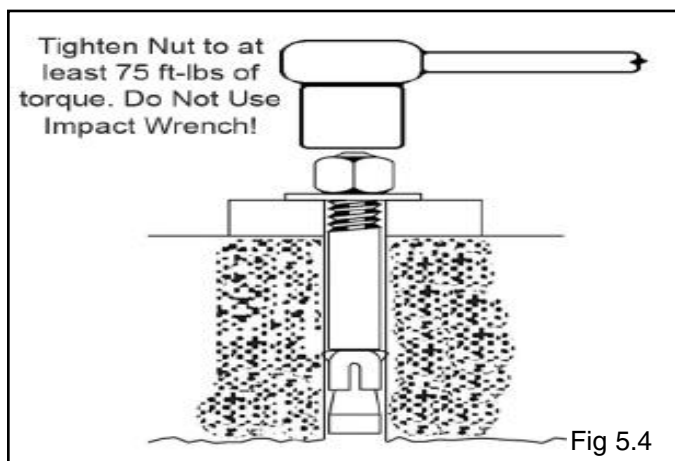

Fig 5.4
6. With the foot guards, shims and anchor bolts in place, tighten by securing the nut to the base then turning 3-5 full turns clockwise (90 ft-lbs.). **DO NOT** use an impact wrench for this procedure. (See Fig. 5.4)